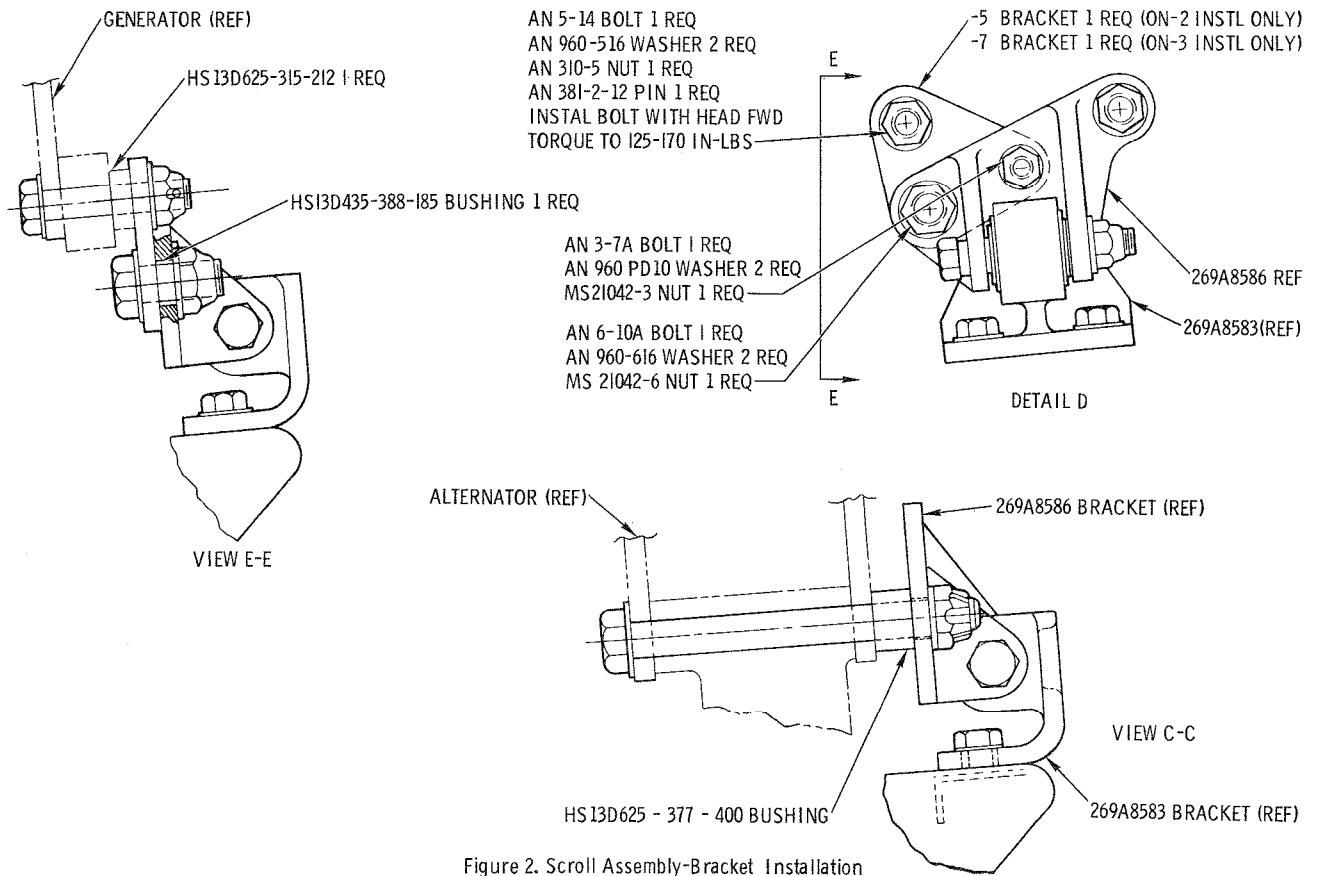

Figure 2. Scroll Assembly-Bracket Installation
- e. Assemble 8583 and 8586 brackets, per Detail D, Figure 2.